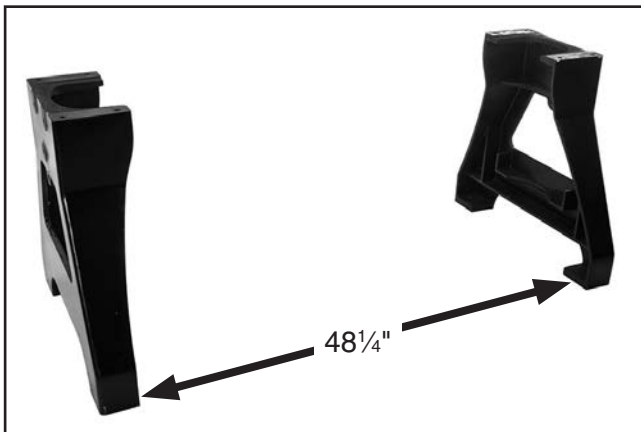

Figure 13. Stand legs aligned and correctly positioned 48 $\frac{1}{4}$ " apart.
1. Position stand legs upright approximately 48 $\frac{1}{4}$ " apart, and align them reasonably well (see **Figure 13**).